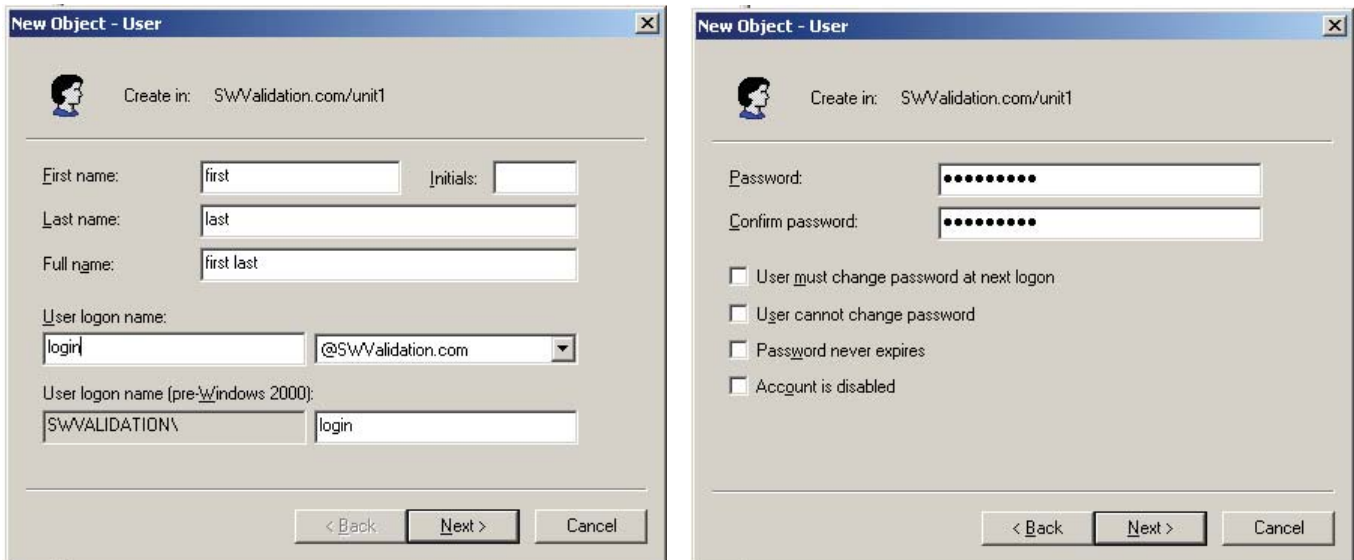

Figure 4.4.7d User details screens
- Similarly, create a new Group, then a new User, entering the user name and login details (figure 4.4.7d). In the password page, ensure that the various tick boxes are enabled/disabled as required.